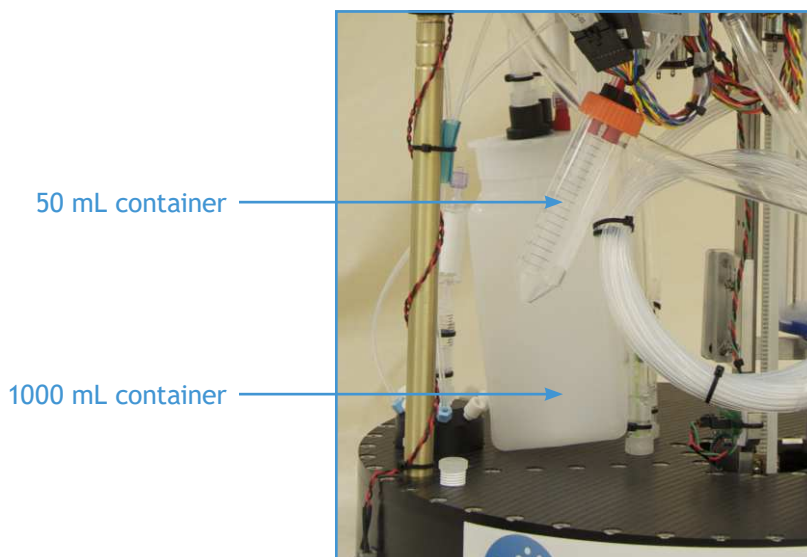

Figure 1-2: Clean air containers
1. Unscrew a container from its cap. See Figure 1-2.